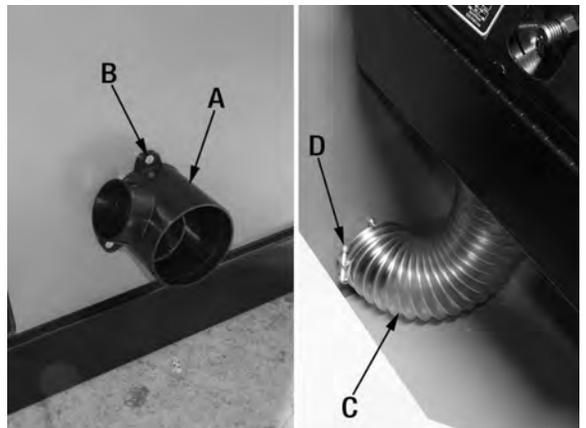

FIGURE 22
2. Install the dual 4" dust chute (A) Fig. 22 to the rear of the cabinet as shown using 3 hex. bolts and hex. nuts (B).
3. From inside the cabinet, connect the 4" dust hose (C) to the dust chute (A) as shown and secure hose with wire clamp (D).